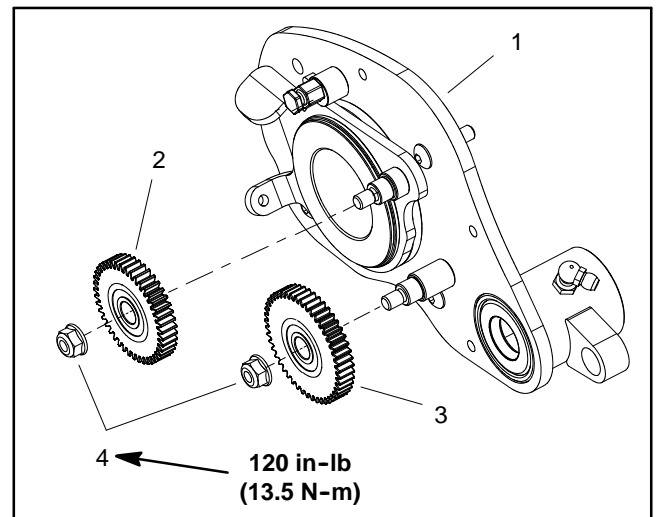
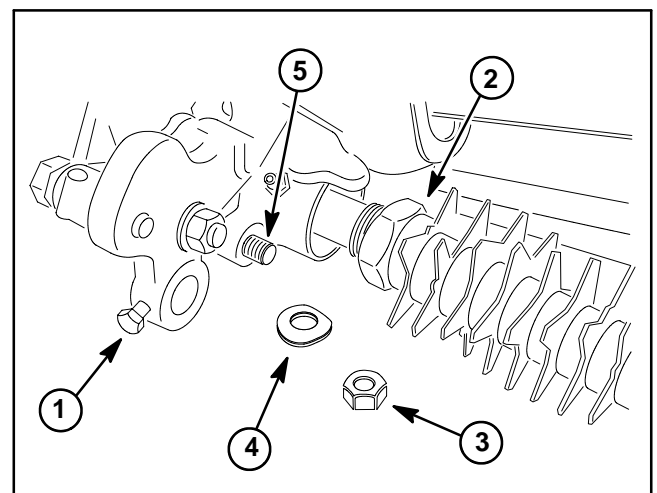

Figure 12
Figure 13
6. Remove the two (2) idler gears (43T and 47T) from the RH drive plate assembly (Fig. 12). The bearings are pressed into the gears.
7. Loosen cap screws (item 7) that secure front roller shaft to groomer arms.
8. Remove lock nut and spring washer that secure RH groomer arm lift rod to RH drive plate assembly (Fig. 13).
9. Remove HOC nut (item 2), HOC washer (item 9) and plow bolt (item 35) that secure RH groomer arm assembly to RH drive plate assembly. Do not change height-of-cut screw adjustment. Remove RH groomer arm assembly from cutting unit.
7. Secure groomer drive gear (item 17) to cutting reel shaft. Torque gear to **125 ft-lb (170 N-m)**.
8. Install the two (2) idler gears (43T and 47T) to RH drive plate assembly (Fig. 12). Secure gears with flange nuts and torque flange nuts **120 in-lb (13.5 N-m)**.